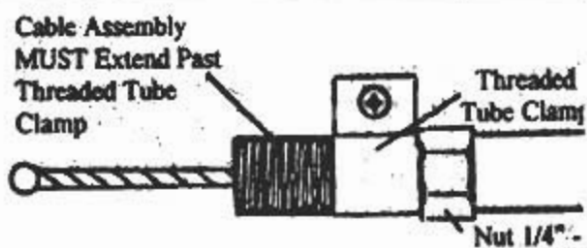

FIGURE 27
2. After the threads have been formed, screw the Threaded Tube Clamp onto the Cable Assembly. (Figure 27)